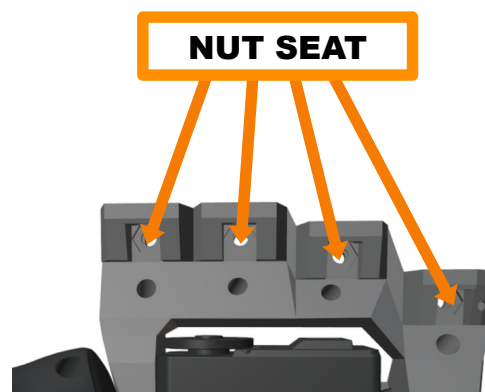

Figure 5.14: Nut seat
2. Position the nut in its seat on the front of the skeleton (figure 5.14)